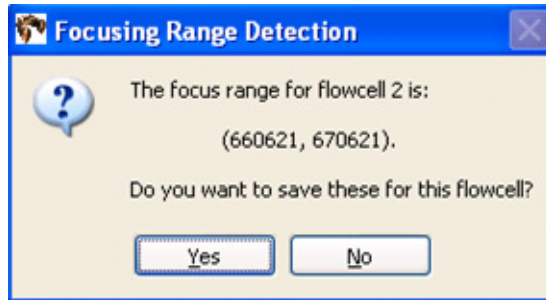

Figure 51 Confirm that you want to replace the local settings file.
5. When the Imager is done, a dialog appears (see Figure 51). Click **Yes** if you want to replace the values in the local settings file. Click **No** if you want the Imager to discard the newly calculated focus range.